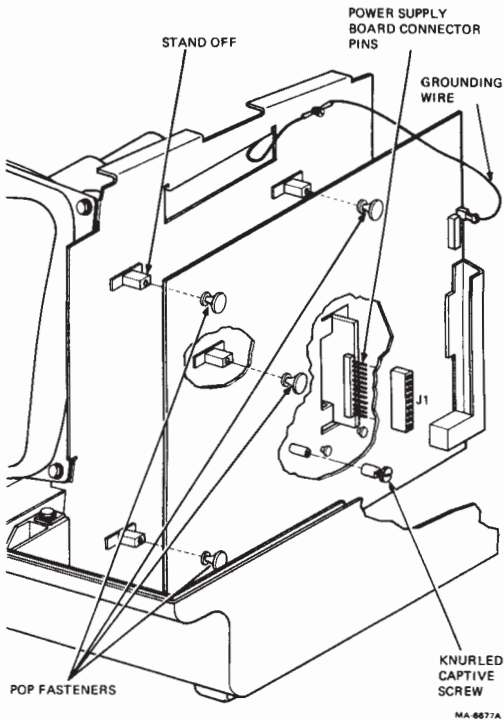

Figure 2-8 Terminal Controller Board Removal
3. Disconnect the grounding wire from the terminal controller board (Figure 2-8).
4. Loosen the knurled captive screw on the terminal controller board until it becomes loose on its spring (Figure 2-8).
5. Pull the four pop fasteners until they release (Figure 2-8).
Perform the following steps to install the terminal controller board. Refer to Figure 2-8.